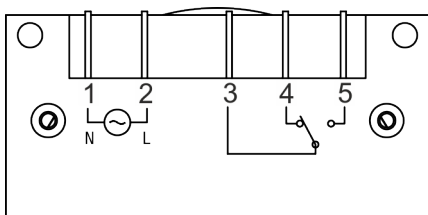

Fig. 4: Wiring diagram for actuator (receiver)
3. Insert the connection lugs (flat, DIN 6.3) into the corresponding cable lugs in accordance with the wiring diagram (Fig. 4).